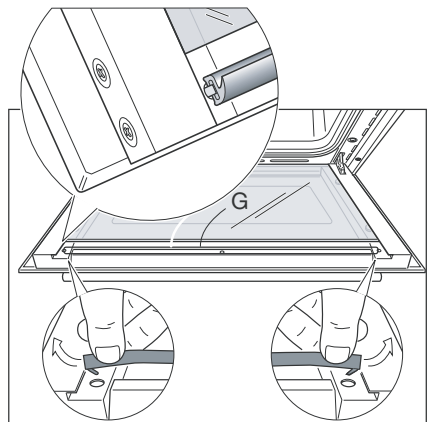

Fig. 49d
- Replace the seal "G" by hooking in the two fixing hooks. Make sure that you put it in the correct way. (Fig. 49d).